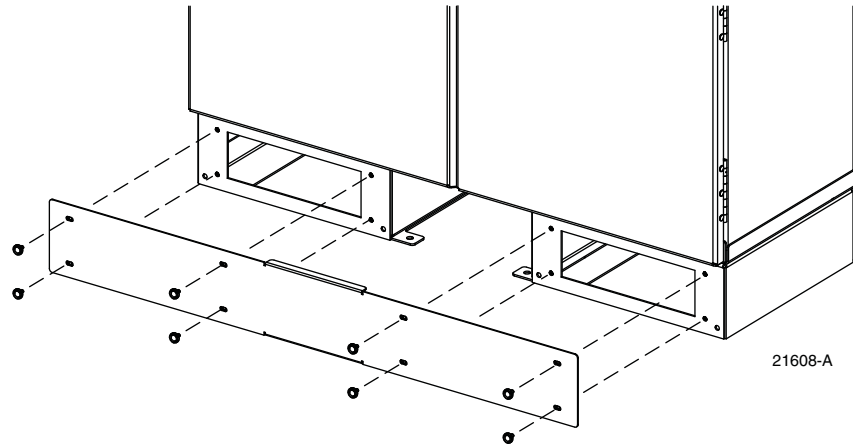

Figure 6. Removing Access Covers From Ground Spacer/Riser
1. Use a 3/16-inch hex-key to remove the screws that secure the access covers to the front and back sides of the cabinet ground spacer/riser as shown in Figure 6.